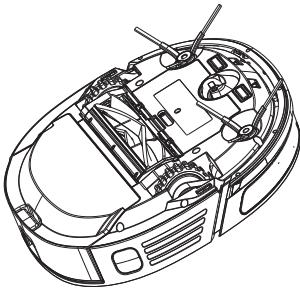

fig 1
1. Side brush installed: directly pushing the side brush into the central convex shaft situated at the side brush seat (fig 1).